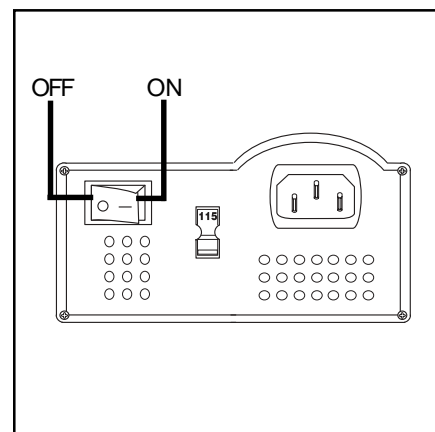

Figure 8B. Charger On/Off Switch
5. Make sure the battery charger switch is in the “off” position. See figure 8B.
7. Turn the charger on. See figure 8B. It is recommended that you charge your batteries for 8 to 14 hours.